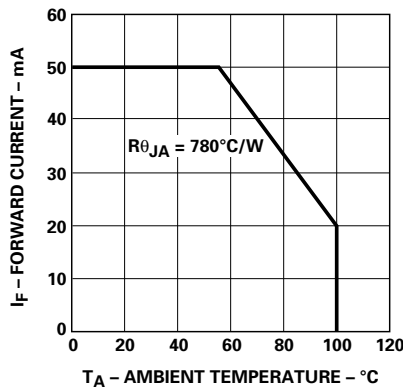

Figure 3. AllnGaP Maximum Forward Current vs. Ambient Temperature.
1. Derate linearly as shown in Figure 3 for temperatures above  $50^\circ\text{C}$ .